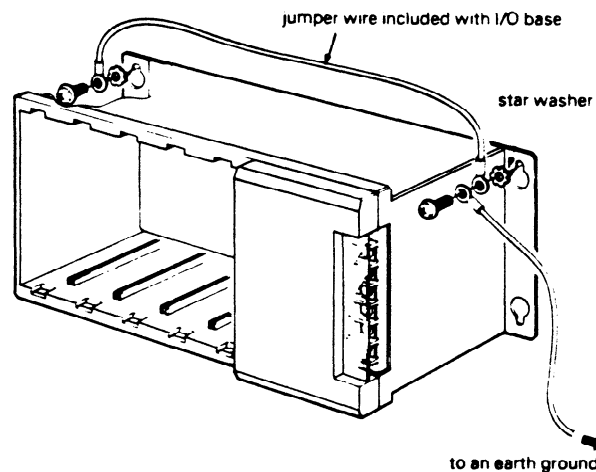

Figure 3-2. Recommended Rack Grounding
When inserting the 2 top bolts, attach the green jumper as shown in figure 3-2. This jumper wire is packed with each rack and provides a method of grounding the rack when an earth ground (such as the shield or hard wire in the power cord) is also connected to a mounting bolt.
26. Connect an earth ground wire to the rack mounting bracket as shown in figure 3-2. (Typically this ground wire is the green wire from the ac power source.)